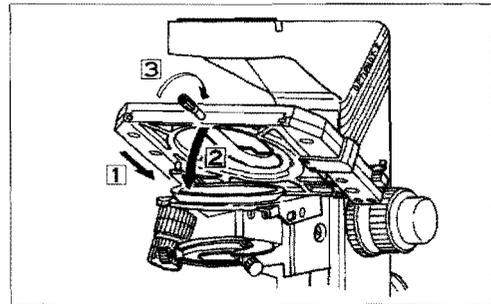

Fig.2-12
⑦ Mounting the Stage
- Insert the stage into the circular dovetail of the stage mount of the substage, ① and ②. Fasten the stage with the stage clamp screw ③ (Fig. 2-12).